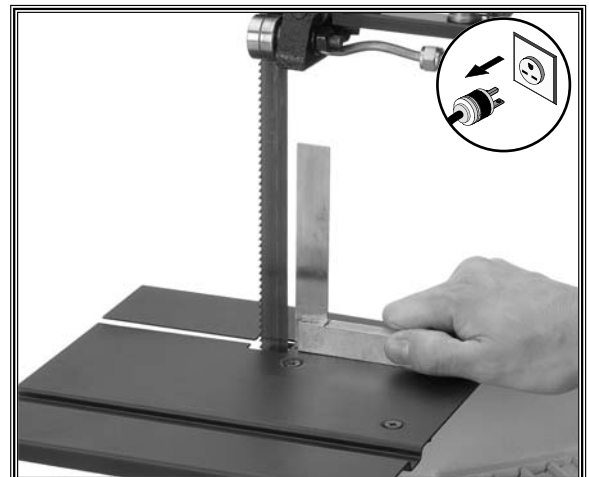

Figure 24. Checking table-to-blade squareness.
6. Place a machinist's square on the table as shown in **Figure 24**, and make sure that the table and blade are square with each other.